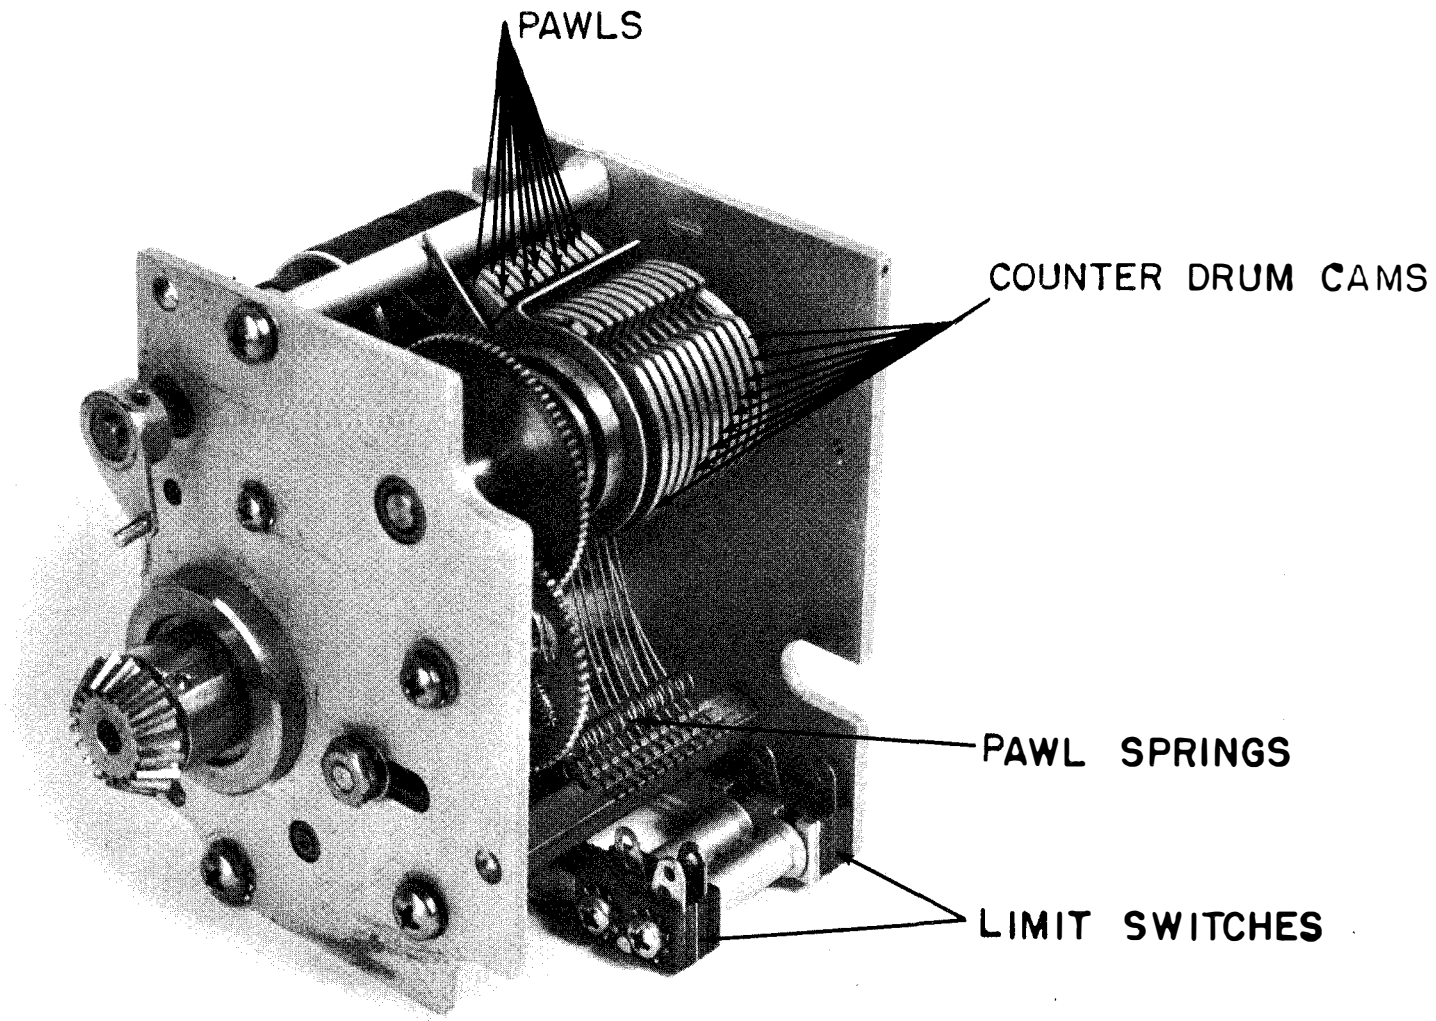

Figure 5-20. Correct Alignment of Counter Drum Cams
- Step 6. Rotate the channel selector drum until the pawl nearest the main dial falls. The main dial will now be free to rotate through its entire travel. Using a small screwdriver, carefully move all cams on the counter drum against their friction clutch until their slots are approximately in line with the slot on the reference cam as shown in figure 5-20.